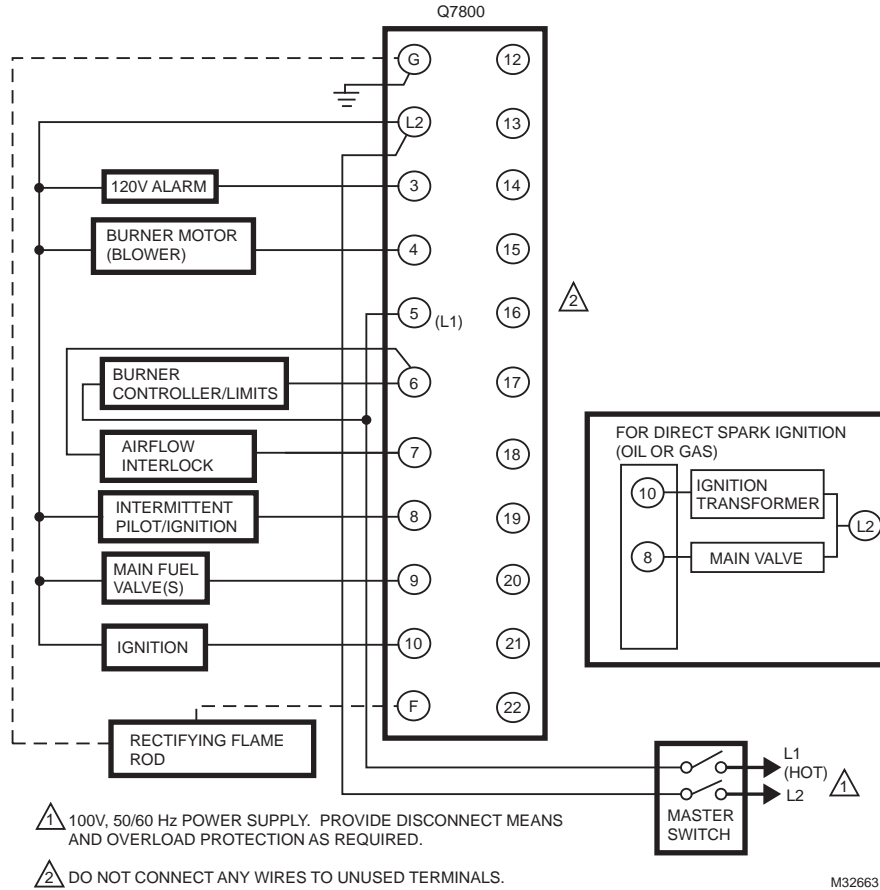

Fig. 6. Wiring the RM7895E,F Relay Module.
1. *Wiring connections for the relay modules are unique; refer to Fig. 6 and 7 or the correct Specifications for proper subbase wiring.*